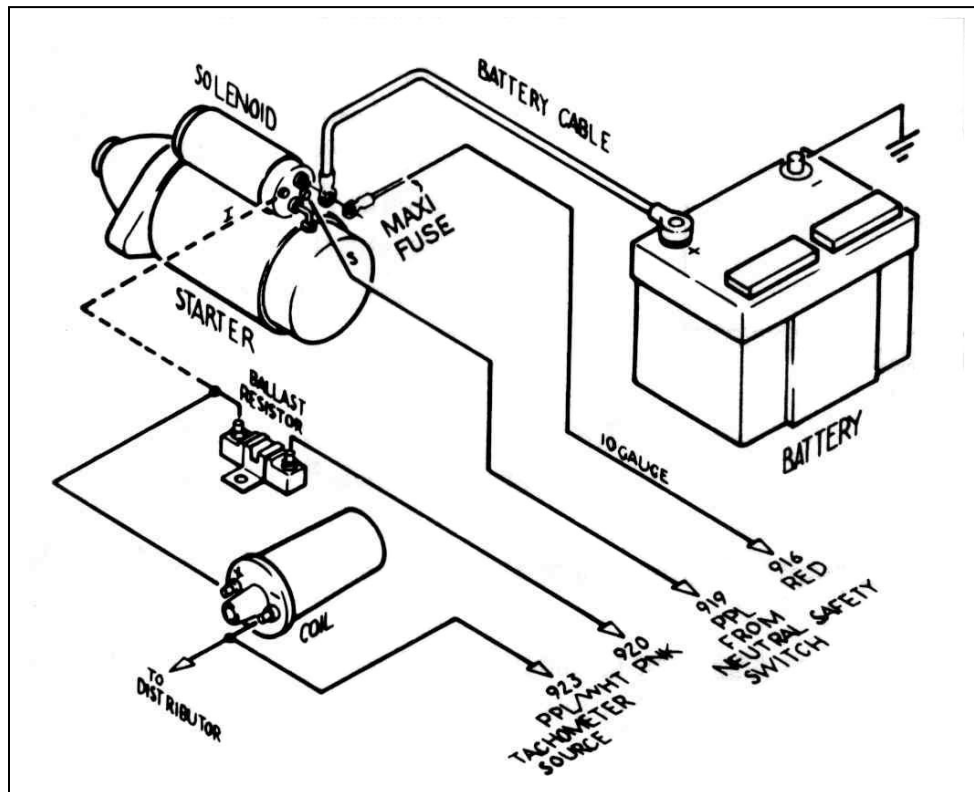

Figure 2-4 GM Ignition (Start-Run) System
2.4 GM Ignition (Start/Run) System. See Figure 2-4.
- 2.4.5** A 14-gauge wire connected from the Starter Solenoid Ignition (I) terminal to the ignition coil side of the Ballast Resistor is optional. This wire (the dashed line in **Figure 2-4**) serves as a ballast resistor BYPASS during engine starting. However, if the starter solenoid shorts out, which is not unusual, the engine will stop running and will not restart as long as this wire is connected. You may therefore choose to omit it. If you are not using a Ballast Resistor, leave the Starter Solenoid Ignition (I) terminal unconnected and do not install the bypass wire.